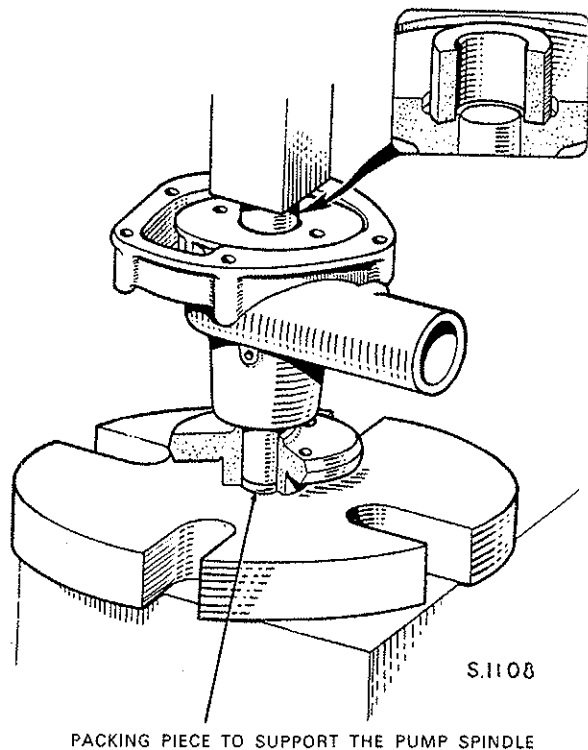

Fig. A.5. Pressing the impeller on the pump spindle
5. Support the pump spindle end inside the pulley centre and press on the impeller with the blades facing inwards (see Fig. A.5). The rear face of the impeller must be 0.040 in. (1.02 mm.) below the level of the machined rear face of the pump body. This can be